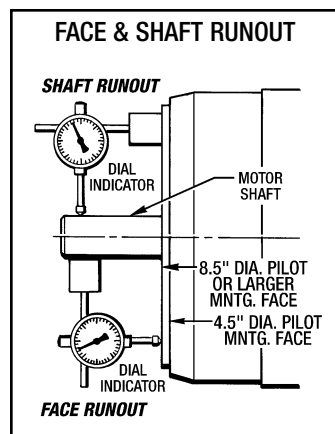

Figure 3 - Verifying Motor Specs.
The Motor Manufacturer's Specifications must be verified first to ensure the Motor Brake Oil Seal Reliability. (1) **Motor Shaft Runout** and (2) **Mounting Face Runout** need to be checked with a Dial Indicator as shown in Figure 3.